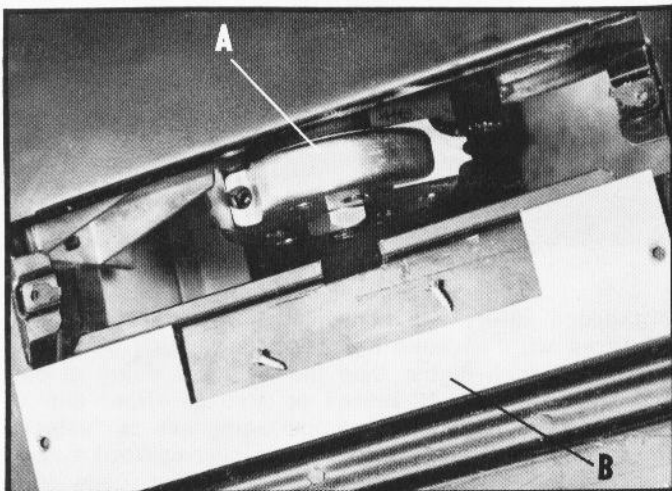

Fig. 30
The moulding cutterhead (A) Fig. 30, is assembled to the saw arbor in the same manner as the saw blade. The guard, splitter and anti-kickback finger assembly can not be used when moulding and must be removed from the saw as shown. Also, the Cat. No. 34-668 accessory moulding cutterhead table insert (B) Fig. 30, must be used in place of the standard table insert.